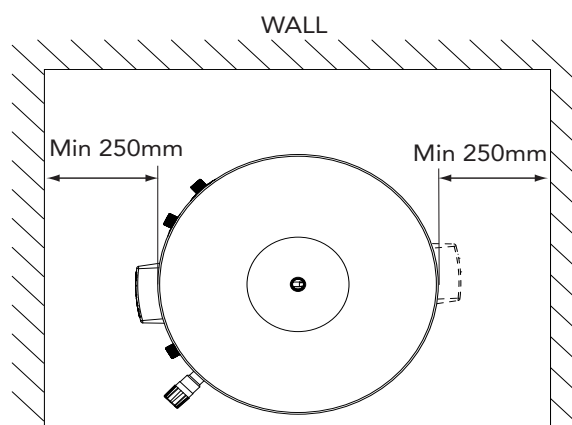

Figure 6: Siting the appliance
- ▶ Access to associated controls and immersion heaters must be available for the servicing and maintenance of the system. Where these controls are installed against a wall a minimum distance of 250mm must be left (see Fig. 6).